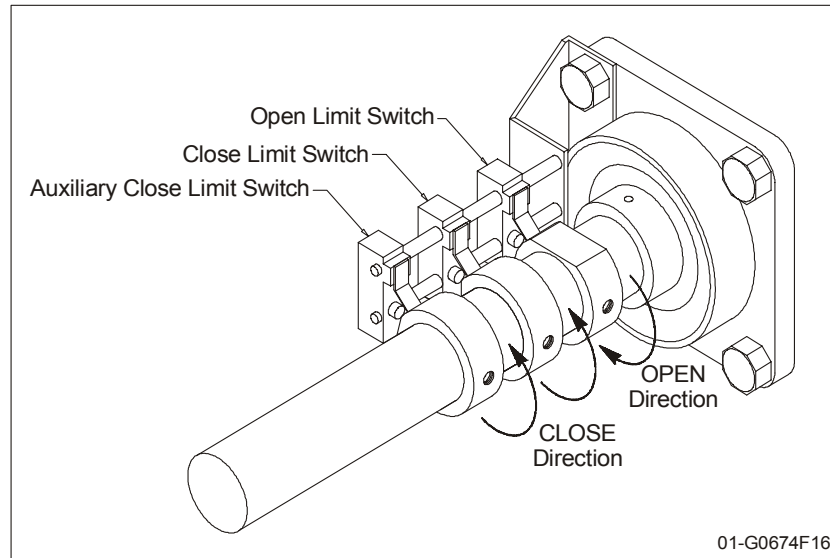

Figure 14: Limit Switch Layout
- 1 Back out the set screw on the cam. Then rotate the cam in the close direction so that the switch just clicks when the gate arm is in its lowest position (see Figure 14).
- 1 Loosen the OPEN cam and rotate in the open direction until the switch just clicks. See Figure 14.